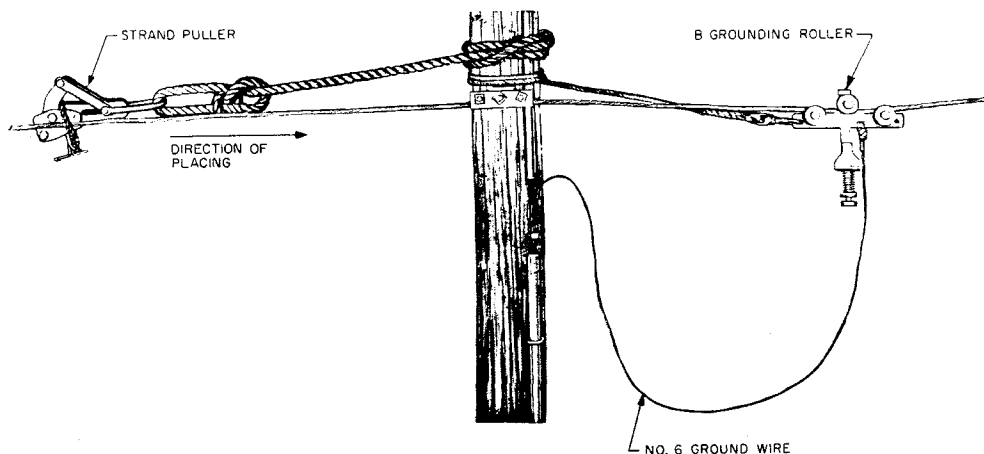

Fig. 6 — Grounding Roller Attached to Strand — Moving Reel Method
- (b) Attach grounding roller as shown in Fig. 6 on the side of the pole opposite the strand puller.